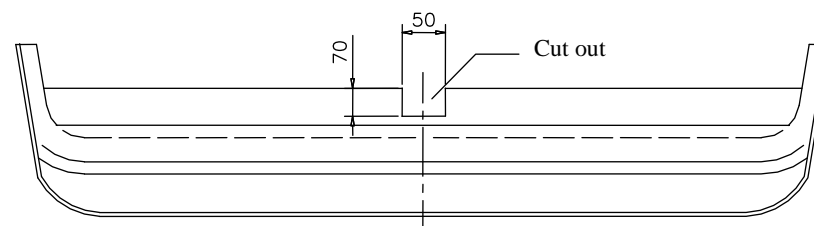

Fig. 2
3. On the left and right side put to chassis members brackets (pos. 4 and 5) in this way so elongated holes tally with plastic pin protruding from floor and next through holes (pos. A, B, C) drill holes $\varnothing 1$ mm.
4. Bracket (pos. 5) screw through hole (pos. C) using washers (pos. 10) and bolts M10x30mm (pos.9).
5. Put main bar of towbar (pos. 1) to mounted brackets (pos. 4 and 5), through holes (pos. A and B), washers and plates (pos. 6) screw with chassis member using bolts M10x50mm (pos. 8) from towbar accessories.
6. Through holes (pos. D) drill holes $\varnothing 1$ mm and next screw with bolts M10x30mm – pos. 9 (use washers $\varnothing 35 \times \varnothing 12 \times 3$ mm – pos. 10).
7. Fix tow-ball (pos. 2) and socket plate (pos. 3) using bolts M12x75mm (pos. 7) from accessories.
9. In central part of the bumper cut out fragment 50x70mm as shown in the fig. 2.